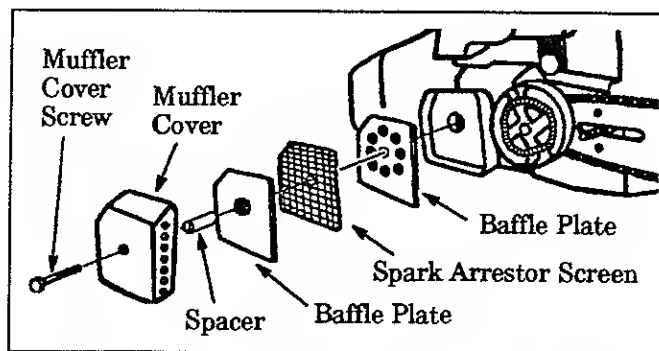

Figure 33
2. Remove the muffler cover screw. Remove the muffler cover. Figure 33.
3. Remove the spark arrestor screen. Figure 33.